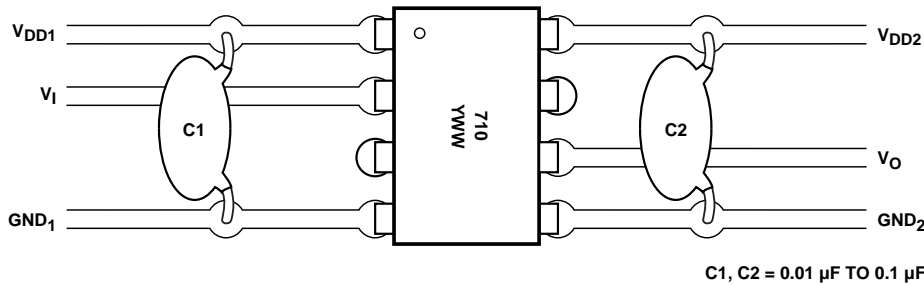

Figure 13. Recommended Printed Circuit Board layout.
0.1 μF . For each capacitor, the total lead length between both ends of the capacitor and the power-supply pins should not exceed 20 mm. Figure 13 illustrates the recommended printed circuit board layout for the HCPL-x710.